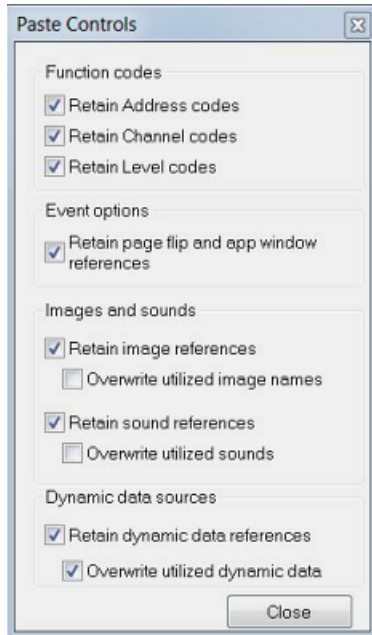

FIG. 13 Paste Controls dialog
- Note that for Buttons, the attributes of the copied (or cut) buttons are retained, according to the selections made in the *Paste Controls* dialog (FIG. 13).